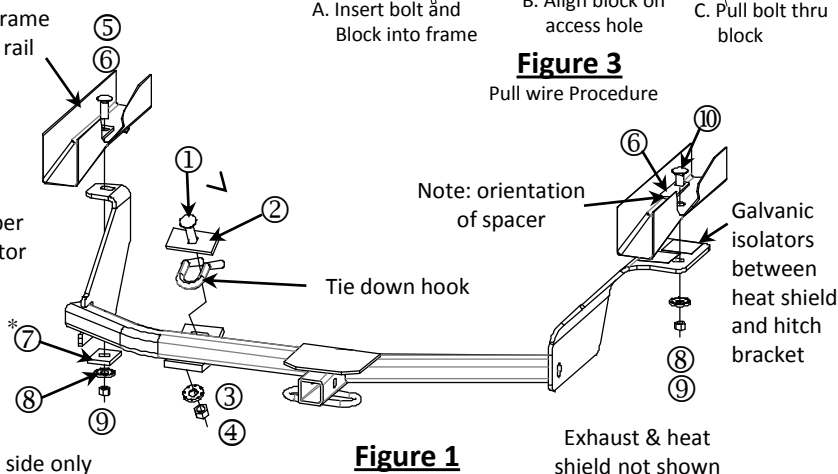

Figure 1
- Install the 1/2 carriage bolt and spacer as shown in Fig 1. to the tie down hook.
- Apply the clear galvanic isolators to the passenger side bracket as shown. Fig 1
- Raise the hitch into position and install 1/2 carriage bolt to the vehicles tie down hook, do not tighten down at this point. Fig 1.
- Feed the 7/16 fasteners through slots on both sides remove pullwires and install fasteners as shown Fig 1. Note: on passenger side sandwich the heat shield between the frame rail and the hitch.